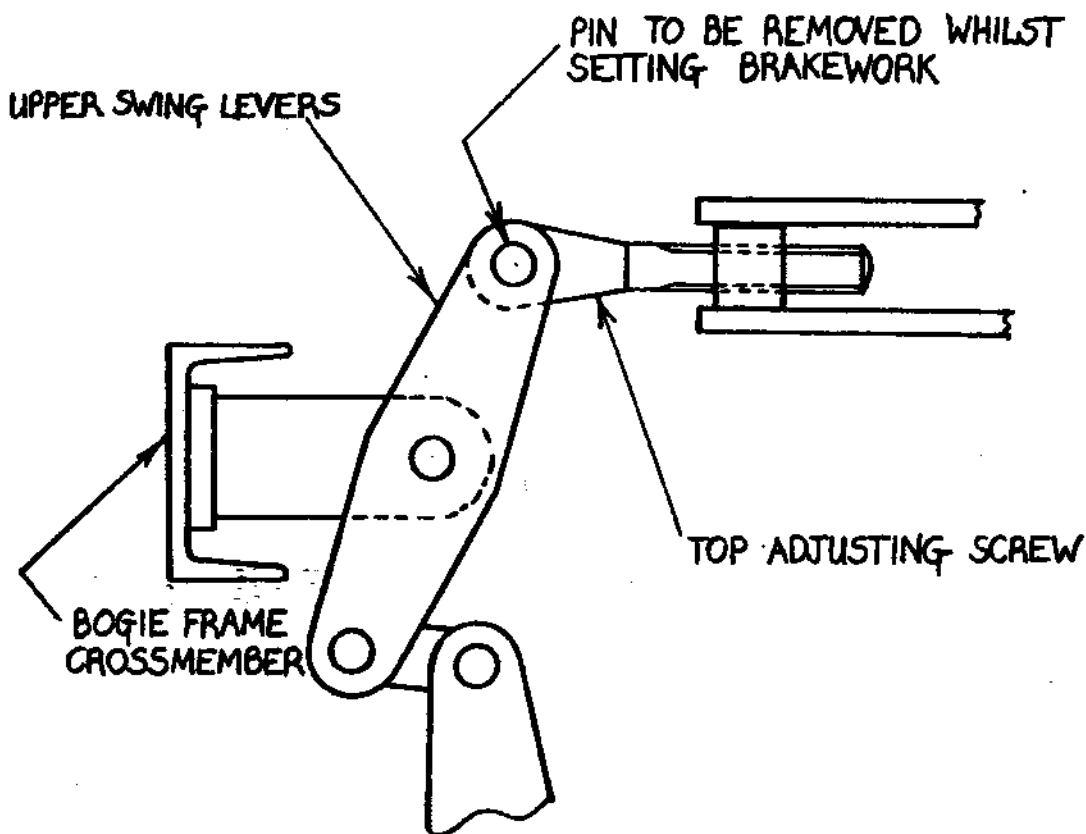

FIG. A1 : Pin to be removed whilst setting brakework
- iii) Remove pin connecting upper swing levers with top adjusting screw (see Fig. A1).
- vi) Turn top adjusting screw so that hole in screw aligns with holes in upper swing levers. Refit pin removed in iii) (see Fig. A1)